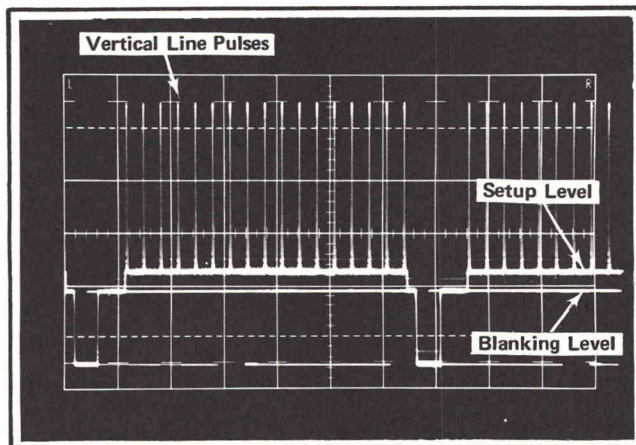

Fig. 5-47. Typical crosshatch display with vertical line pulses only.
c. CHECK—Test oscilloscope display; there should be 17 vertical line pulses as shown in Fig. 5-47.